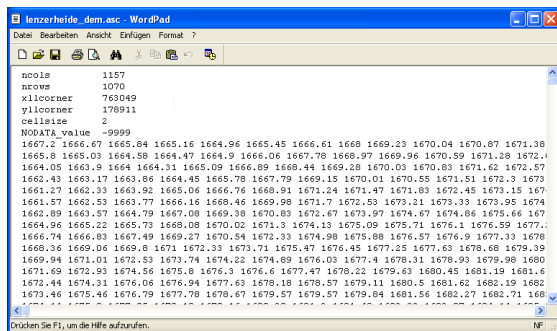

Figure 4.2: Example ESRI ASCII grid.
- ESRI ASCII grid (Fig. 4.2)
These data types are also available e.g. from www.swisstopo.ch. Because RAMMS needs the topographic data as an ESRI ASCII grid, ASCII X,Y,Z data can be converted within RAMMS into an ESRI ASCII grid. At this stage no other data types are processable. The user must therefore prepare the topographic data according to this limitation. The header of an ESRI ASCII grid must contain the information shown in Fig. 4.2